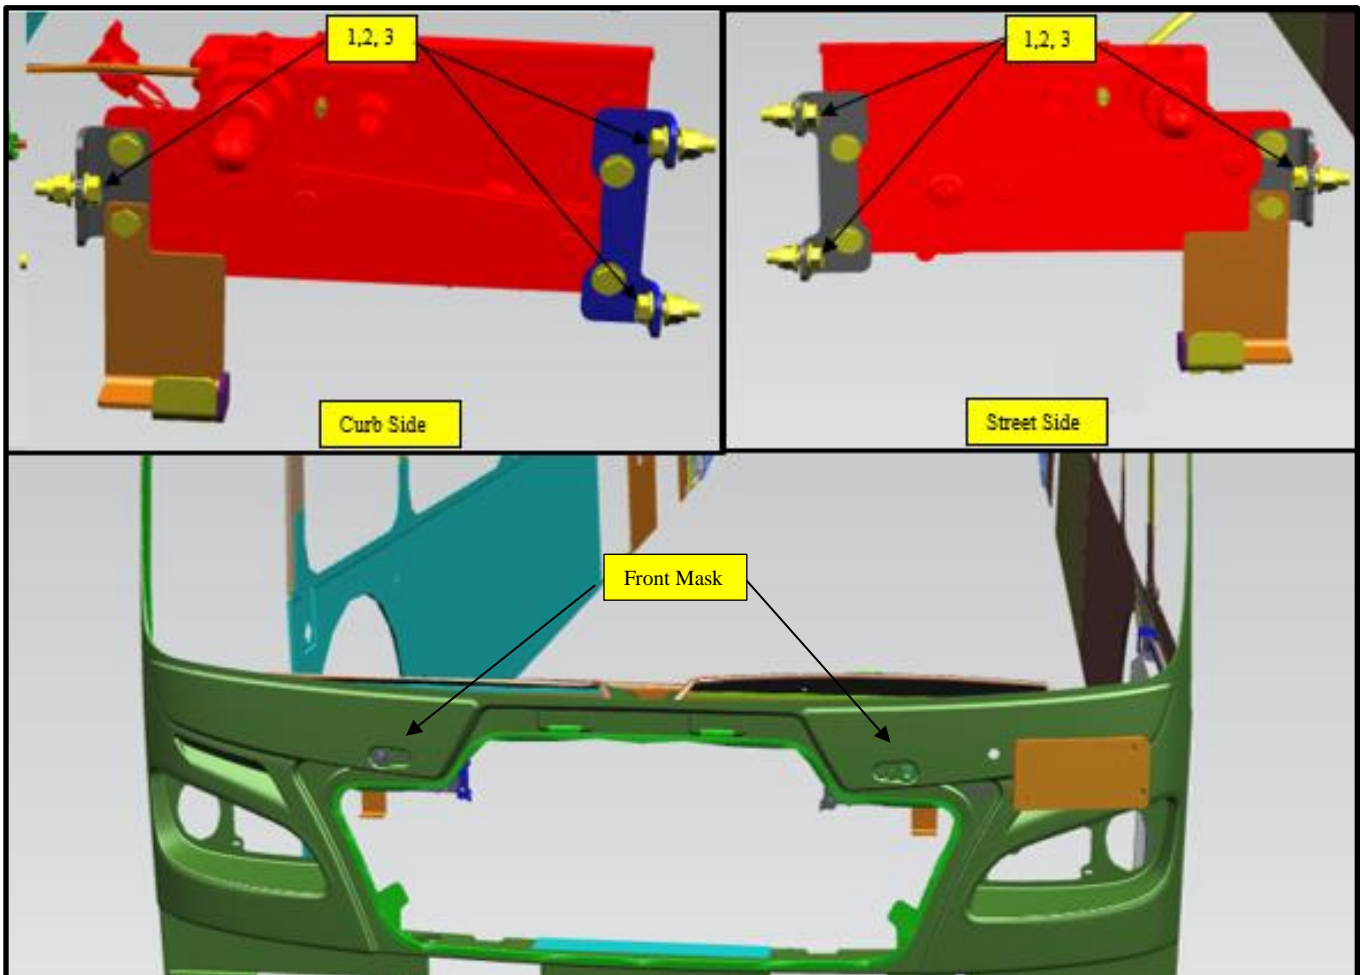

Figure 4: Wiper motor mounting location reference.
17. Install C/S and S/S wiper Motor with bracket assembly in the bus, and secure using hardware 5/16 SST bolt (#1 NF PN: 10B05016), 5/16 SST flat washer (#2 NF PN: 50W05000), and 5/16 nylock nuts (#3 NF PN: 42N05000). Torque hardware to 24 ft-lbs. See figure 4.